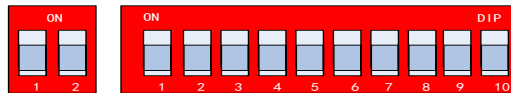

Figure 2-8 Enlarged View of DIP Switch
- For some certain models, the two individual DIP switches at the left side of the Figure 2-8 are supported for turning on/off the terminator; while other models are not supported.